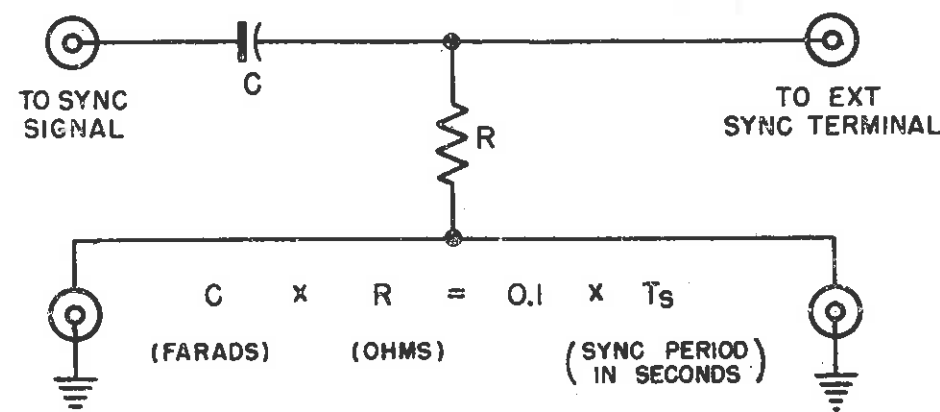

FIGURE 2-2 - DIFFERENTIATING CIRCUIT FOR USE IN ESTABLISHING STABLE DRIVEN SWEEP
2. Apply the EXTERNAL sync signal by connecting a test lead between the Y INPUT and EXTERNAL SYNC front-panel terminals; or, for most effective triggering from non-sinusoidal signals, apply the sync signal through a differentiating network having a time constant of approximately 10 per cent of the period of the sync employed. For details of the differentiating circuit, see Figure 2-2.